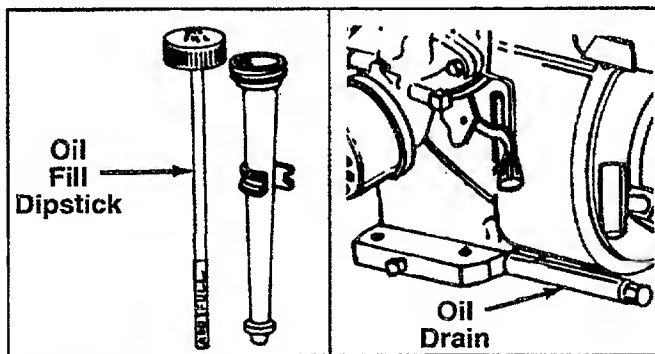

FIGURE 13.
- Use engine oil provided. Remove oil fill dipstick. See figure 13. With chipper-vacuum level, use a funnel to fill engine with oil to FULL mark on dipstick. Capacity is approximately 26 ounces. **Be careful not to overfill.** Oil bottle provided contains 27 oz. of oil. Tilt chipper-vacuum toward the left (from behind the hopper), then re-level. Check oil level. Refill to FULL mark on dipstick if necessary. Replace dipstick and tighten.